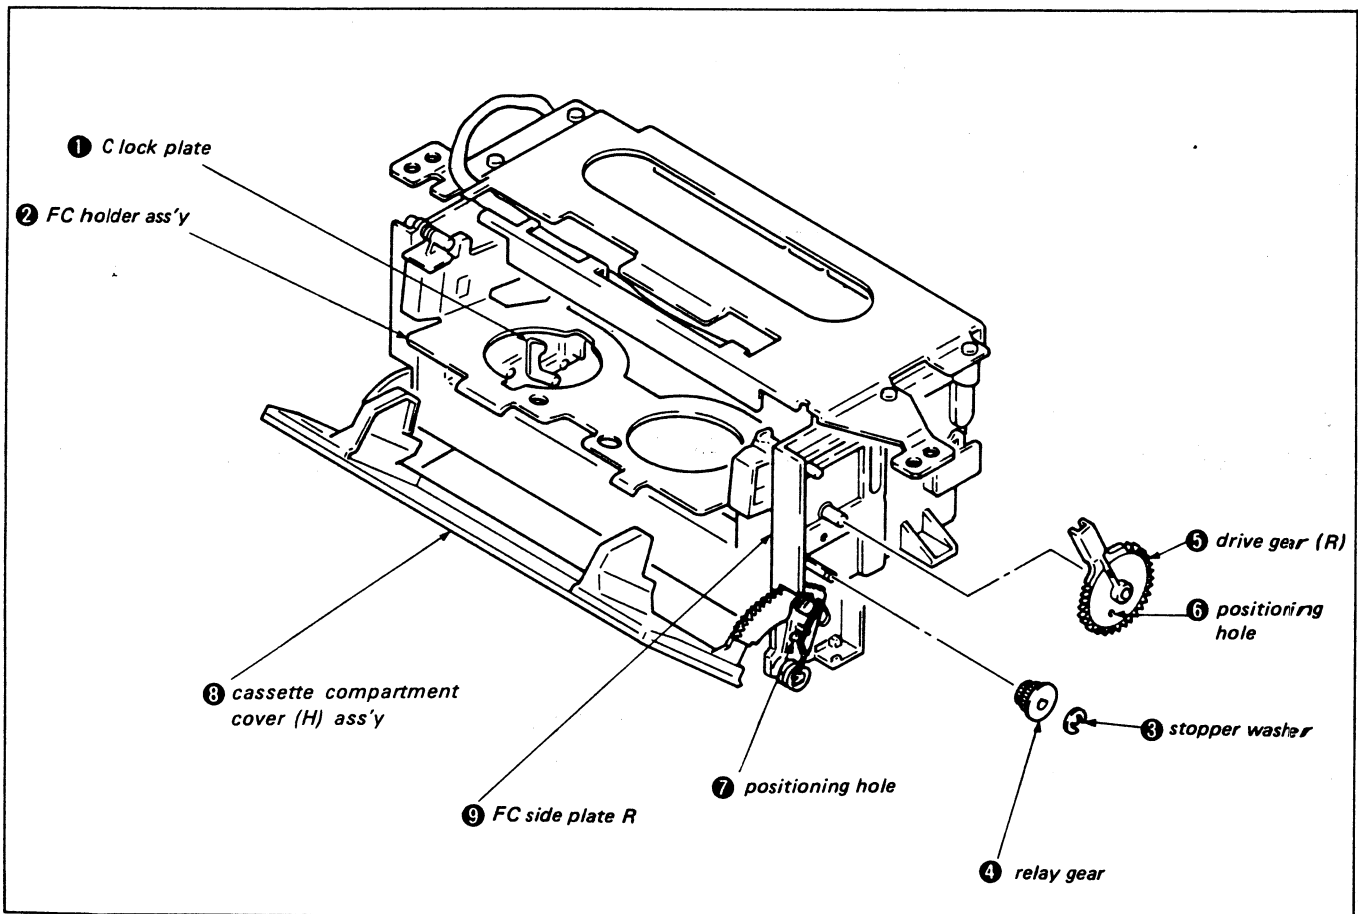

Fig. 3-56.
- 2) Release C lock plate ① and raise FC holder assembly ②.
- 3) Remove stopper washer ③ and relay gear ④.
- 4) Replace drive gear (R) ⑤.
- 5) Insert a thin rod into drive gear (R) ⑤ positioning hole ⑥ and door gear R positioning hole ⑦ and make sure that it goes through.
- 6) Mount relay gear ④ and stopper washer ③.
- 7) Close cassette compartment cover (H) assembly ⑧ and confirm that FC holder assembly ② locks.
- 8) Confirm that cassette compartment cover (H) assembly ⑧ and FC side plate R are parallel.
- 9) Release C lock plate ① and check that FC holder assembly ② comes up and cassette compartment cover (H) assembly ⑧ opens. Also, confirm that the FC holder assembly ② goes down and locks when the cassette compartment cover (H) assembly ⑧ is closed (Fig. 3-56)